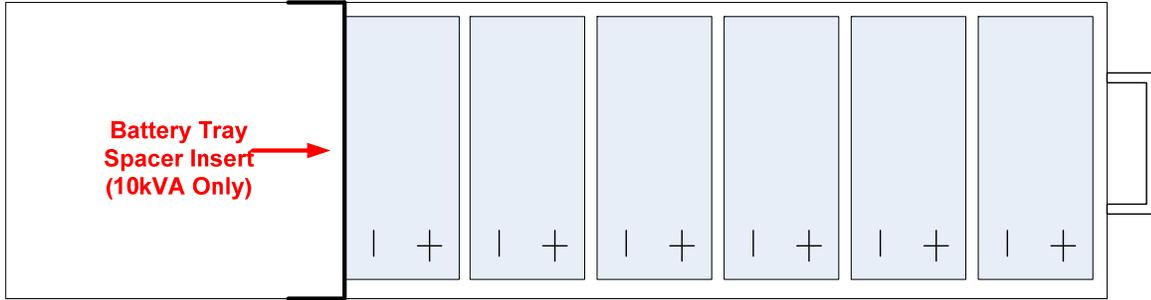

Fig. 5-1
- Verify that the trays that were sent are correct for the model of UPS that is to be installed; the trays for a **10kVA** utilize six 12v 34W/cell (**CSB model HR 1234 FR**) batteries, and the trays for the **20kVA** utilize six 12v 51W/cell (**CSB model HR 1251 FR**) batteries. The trays used in the 10kVA model utilize a spacer insert at the rear of the tray to account for this difference in battery size (See figure 5-1 below). **THE TRAYS FOR 10 AND 20kVA UNITS SHOULD NOT BE INTERCHANGED.**